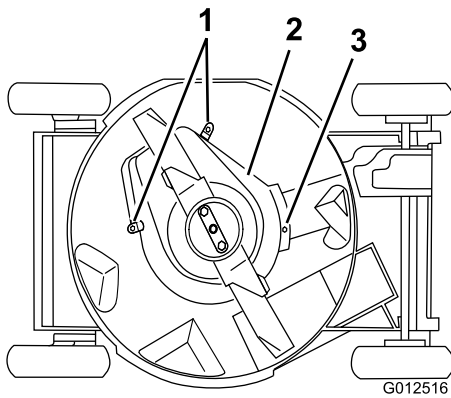

Figure 37
6. Loosen the tabs that secure the blade brake clutch shield to the deck by loosening (but not removing) the nuts on the tabs (Figure 37). Rotate the tabs 180° to move them out of the way to remove the blade brake clutch shield.
7. Loosen the bolt (Figure 37).
10. Tighten the bolt (Figure 37).